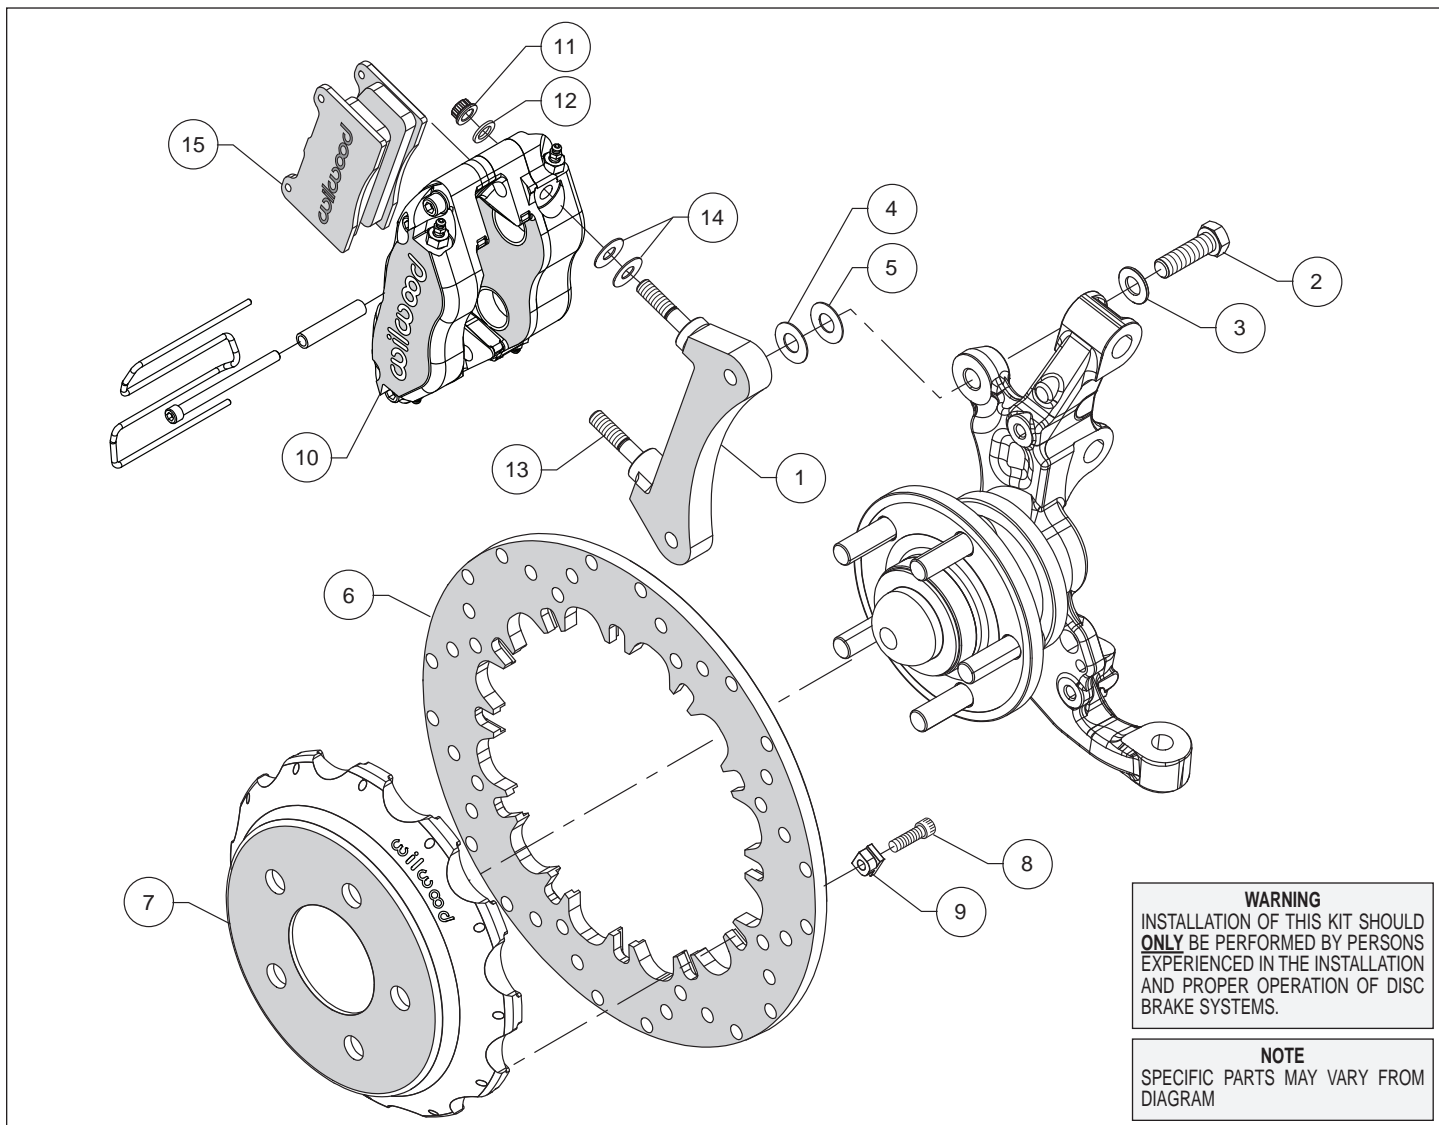
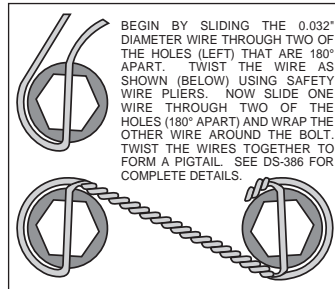

Figure 1. Typical Installation Configuration
Figure 3. Safety Wire Diagram
Assembly Instructions (numbers in parenthesis refer to the parts list and Figure 1 on the preceding pages):
- The caliper mount bracket (1) should initially be installed with clean, dry threads on the mounting bolts. Orient the bracket, as shown in Figure 1 and Photo 1, and install using bolts (2) and washers (3). Initially place one .033" thick shim (4) on each bolt between the bracket and upright, Figure 1. Temporarily tighten the mounting bolts. **NOTE: The bracket must fit squarely against the mount bosses on the upright.** Inspect for interference from casting irregularities, machining ridges, burrs, etc. Later, after the caliper alignment has been checked, the mount bolts will be secured using red *Loctite*® 271.
- Orient the rotor (6) and the hat (7) as shown in Figure 1 and Photo 2. Attach rotor to hat using bolts (8) and t-nuts (9). Using an alternating sequence, apply red *Loctite*® 271 to the threads, and torque to 120 **in-lbs**. The bolts must be safety wired using standard 0.032 inch diameter stainless steel safety wire as shown in Figure 3. Refer to Wilwood's data sheet DS-386 (available at www.wilwood.com/Pdf/DataSheets/ds386.pdf) for complete safety wire installation instructions.
- Lubricate the caliper mounting studs (13) with lightweight oil. Initially place two .035" thick shims (14) on each stud as shown in Figure 1 and Photo 4. Mount the caliper (10) onto the bracket (1) using lock nuts (11) and washers (12), Figure 1. Temporarily tighten the lock nuts and view the rotor through the top opening of the caliper. The rotor should be centered in the caliper, Photo 5. If not, adjust by adding or subtracting shims (4 and/or 5) between the bracket and the mounting bosses. Once the caliper alignment is correct, remove the bracket mounting bolts one at a time, apply red *Loctite*® 271 to the threads, and torque to 60 ft-lbs.
- Insert the brake pads (15) into the caliper with the friction material facing the rotor (6), as shown in Figure 1 and Photo 6. Check that the top of the brake pad is flush with the outside diameter of the rotor, Photo 7. If not, adjust by adding or subtracting shims (14) between the caliper and the bracket. After the caliper pad height is set, torque the caliper lock nuts (11) to 30 ft-lb. Secure the pads in place using the pad clip retainer as well as the center bridge pad retainer tube, bolt, and locknut, Photo 8. The locknut should be snug without play in the bolt or tube. Be cautious not to over tighten.